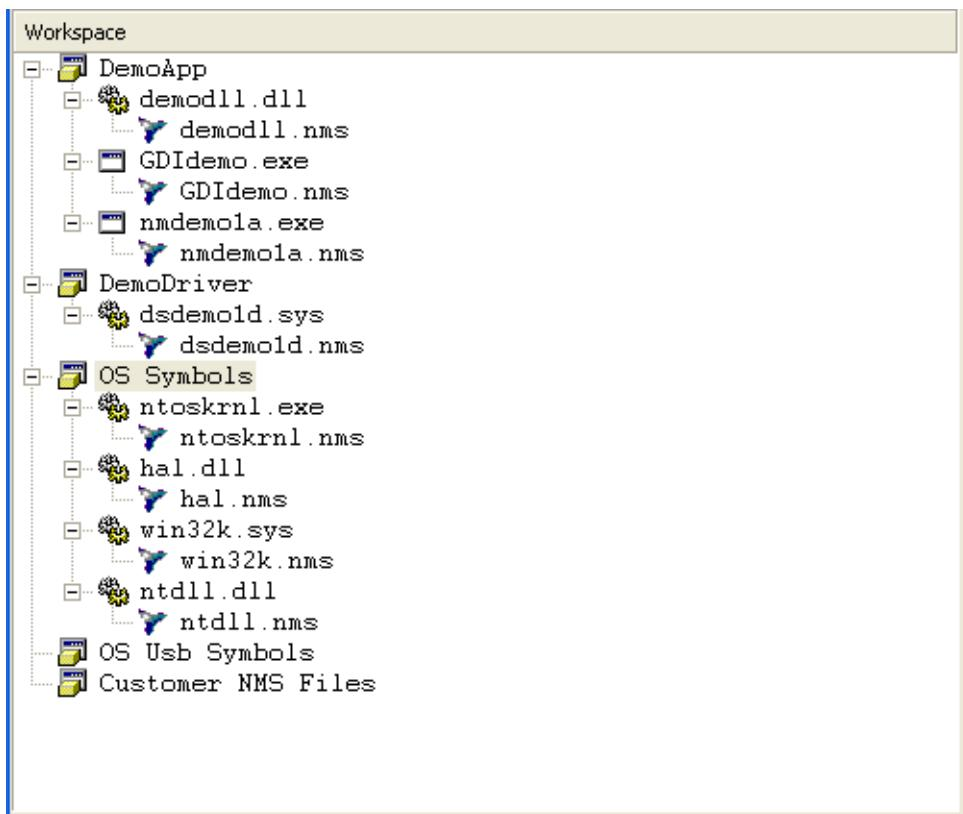

Figure 3-8 Files Loaded into Sessions
The left-hand pane will now list two sessions in your workspace (see Figure 3-8 on page 41).
- 11** Repeat step 9 to access the Add Files dialog and add each of the remaining Demo Application files: `nmdemo1a`, `dsdemo1d`, and `demodll` (see Figure 3-8 on page 41).